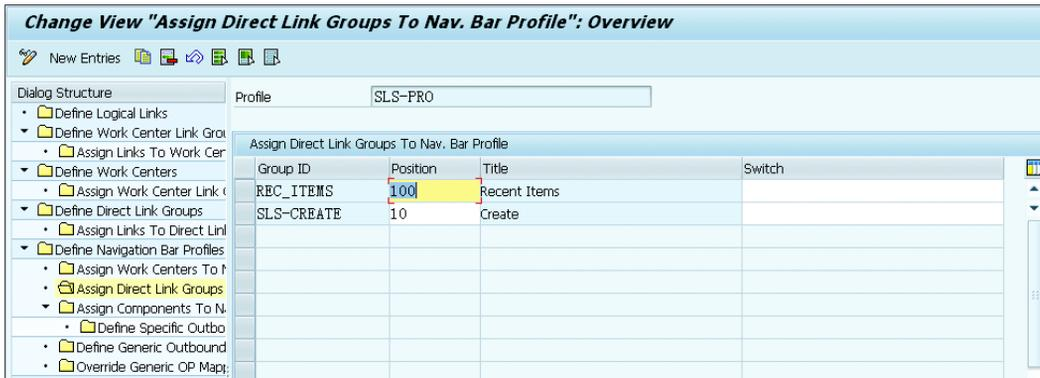

Figure 8.40 Assigning Direct Link Groups to the Navigation Bar Profile
10. Finally, assign the direct link group to the navigation bar profile, as shown in Figure 8.40.